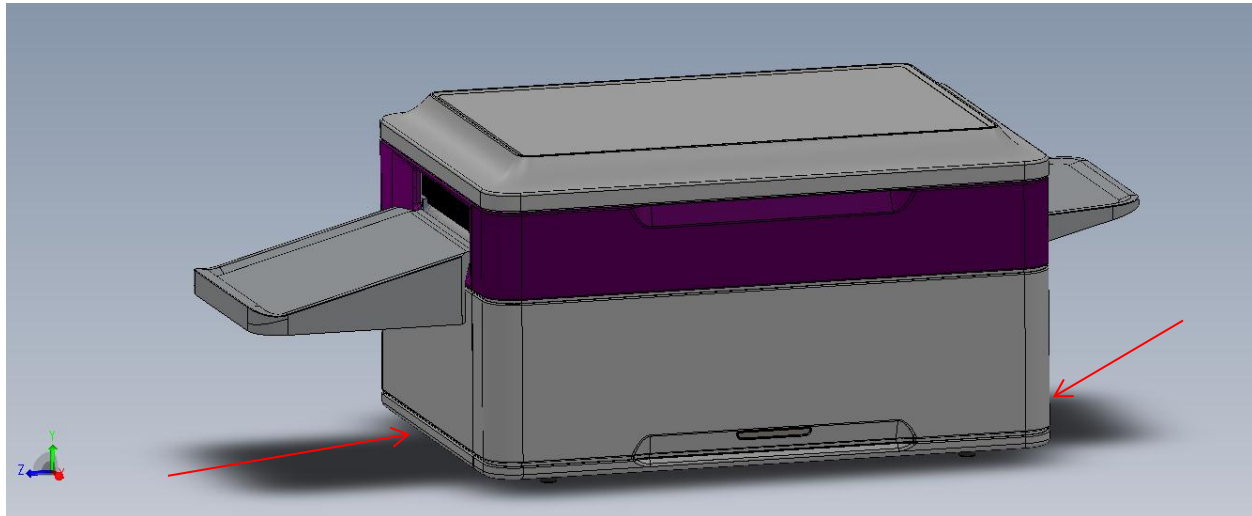

FIGURE 22.LIFTING AND CARRYING INDICATIONS
- b) Place your hands under ALUVIS in the areas shown in figure 22